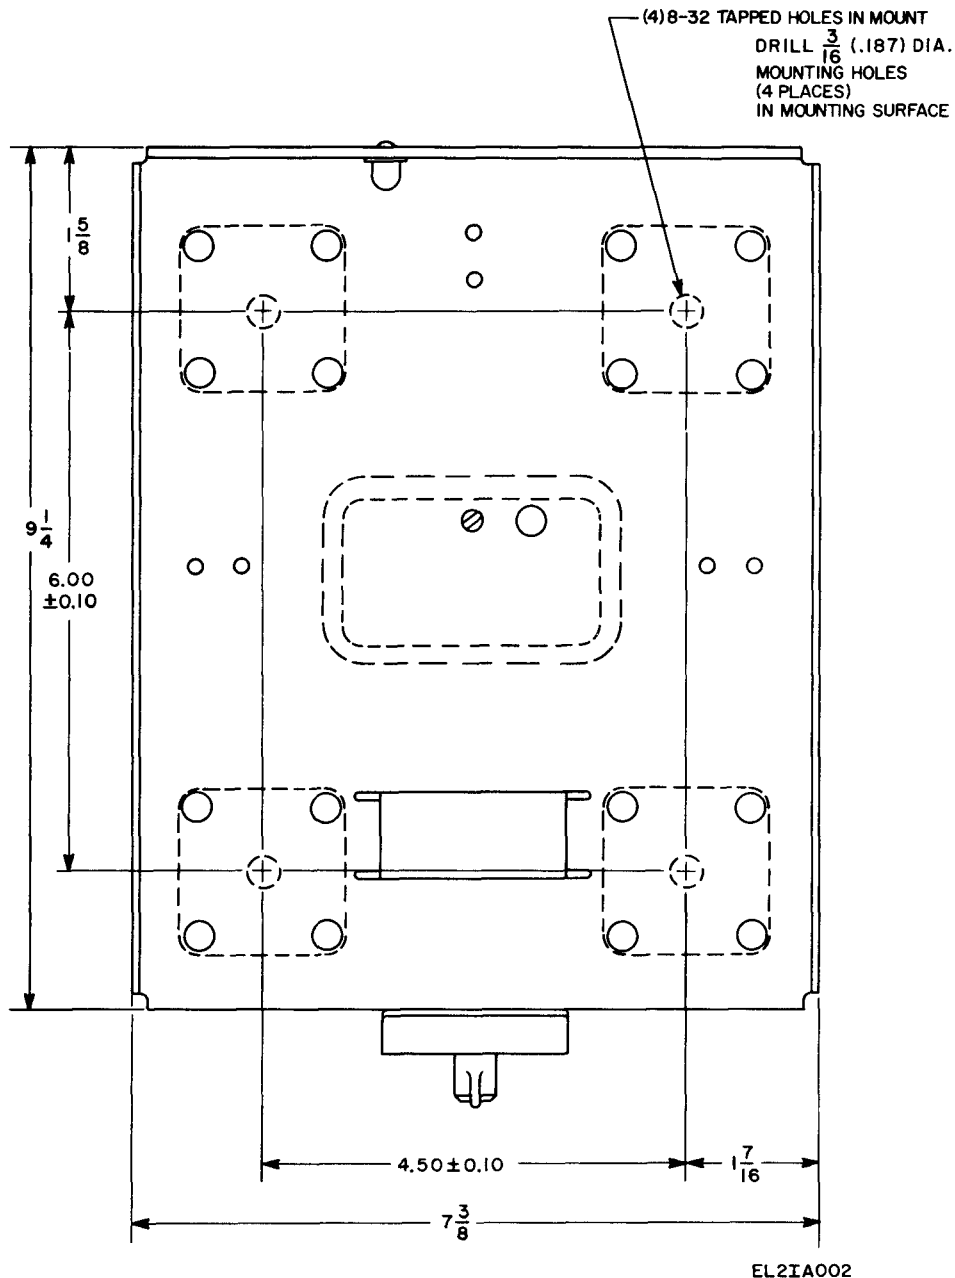

Figure 2-2. Shock mount installation dimensions.
(fig. 2-2)
(1) After the mounting location has been chosen, lay out the four mounting holes to the dimensions shown in figure 2-2.
(2) Drill the four $\frac{3}{16}$ -inch diameter mounting holes.
(3) Drill a $\frac{1}{4}$ -inch diameter hole for the ground strap at any convenient location within the rectangle formed by the four mounting holes.
(4) Remove all paint or other material that is within a $\frac{1}{2}$ inch of the $\frac{1}{4}$ -inch diameter hole so that bare